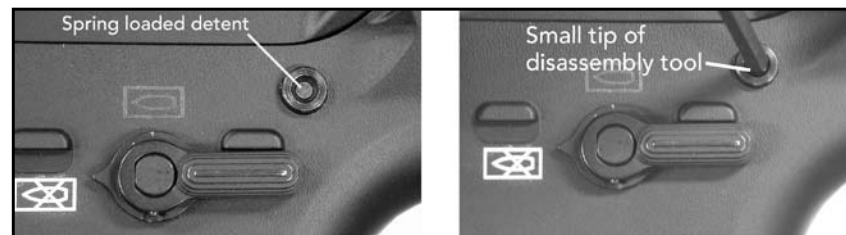

Fig. 66 – Detail of the rear Takedown Pin showing spring loaded detent.
- Insert the small tip of the disassembly tool into the spring loaded detent located in the center of the rear pivot pin. While pushing on the disassembly tool, drift the pivot pin from right to left until the pivot pin reaches its limit of lateral travel. The tip of the pivot pin should be visible on the left hand side of the lower receiver (Fig. 66).